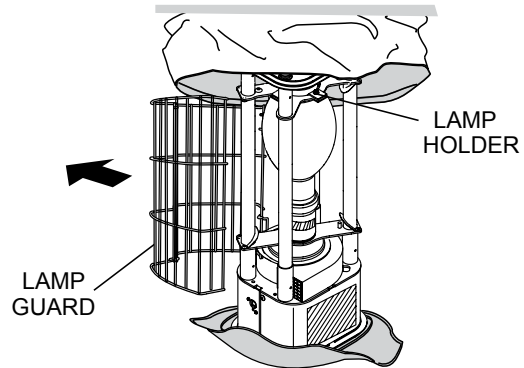

Figure 28. Lamp Guard Removal
3. Remove the lamp guard (Figure 28).